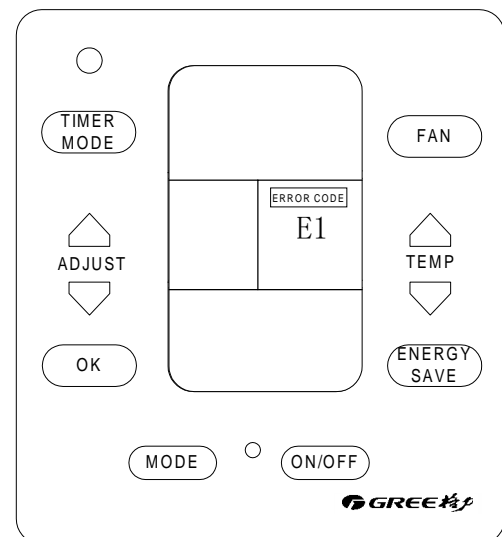

Fig.16: when the compressor's high pressure protection is active, the LCD displays E1.
(8) In the event of malfunction, **ERROR CODE** will be shown and alarm will warning( press on any key will stop the alarm), at this time, immediately turn off the electrical breaker, and consult authorized service personnel. The error codes indicate:(Fig.16)